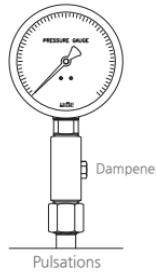

Figure. 3
- 5) In case of pressure pulsation or impulsive pressure is applied to the guage, please use after install gauge protector. (Figure. 3, 4)